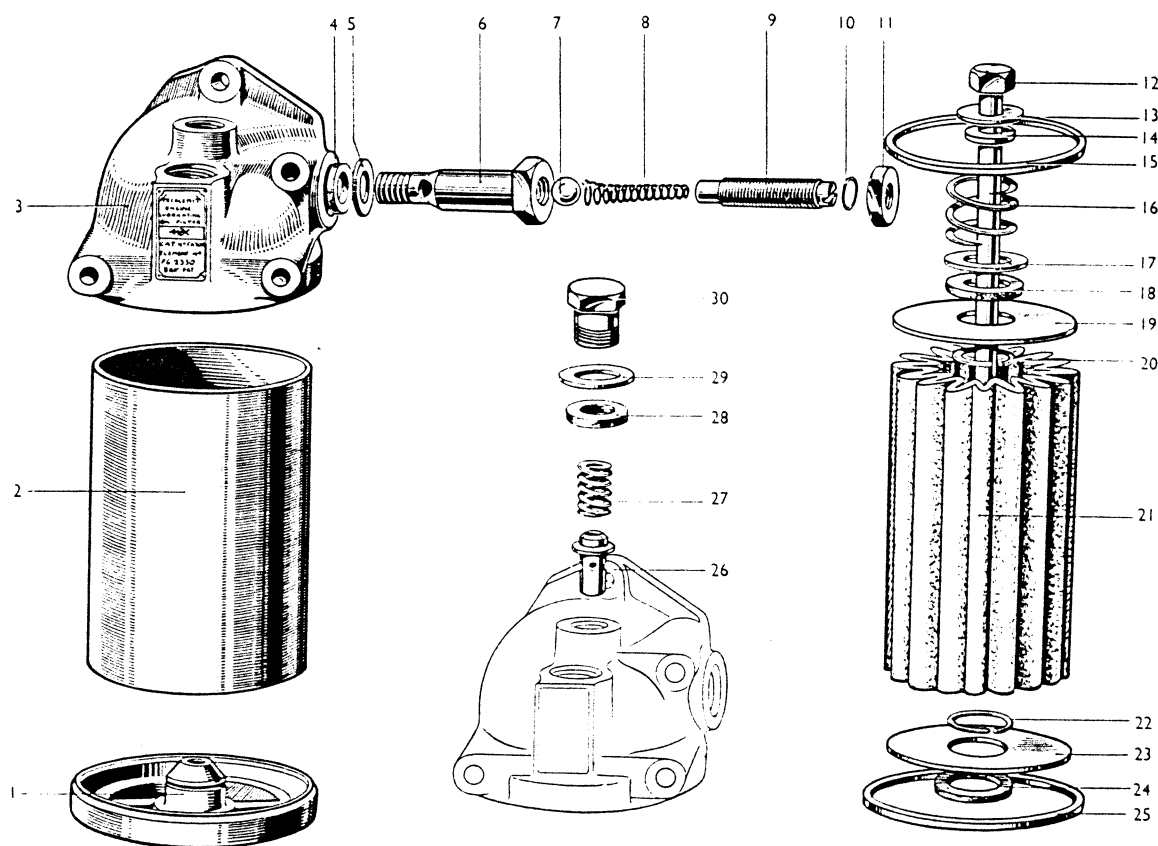

FIG. 4
**To Dismantle Vertical Type (see Fig. 4)**